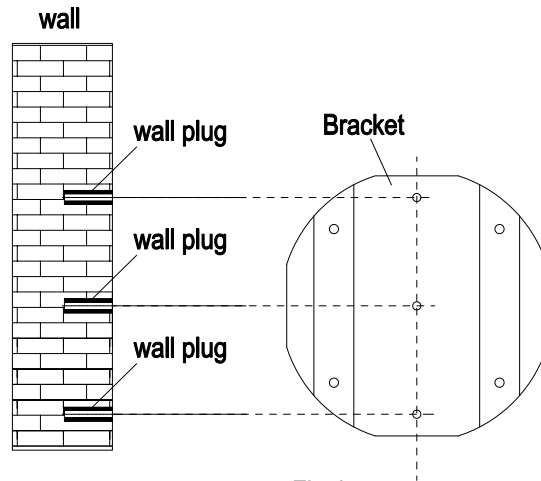

Fig.4
4. Place the bracket on the wall by aligning the three holes with the three wall plugs (Fig.4)